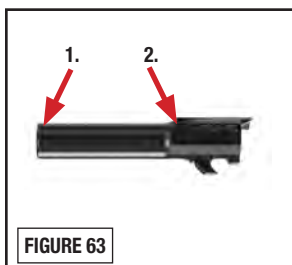

FIGURE 63
- A single drop of gun oil should be applied to the spots identified (FIGURES 63 and 64). This will ensure proper lubrication. Care should be taken not to over-lubricate. Excess lubricant can collect quantities of powder residue, which could interfere with proper functioning of the pistol.